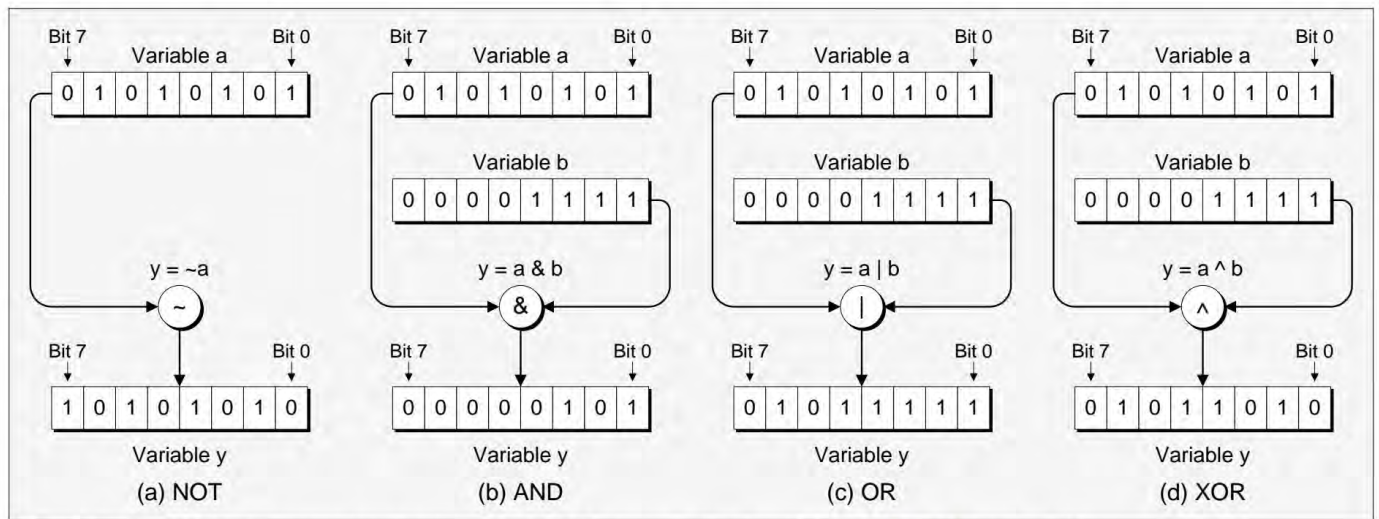

Fig.5: four different bitwise operations performed on 8-bit integer values: not (~), and (&), or (|) and xor (^).
Once again, let's assume that we start with our **a** variable containing binary 01010101 and our **b** variable containing binary 00001111. There are four operators known as the 'bitwise operators': ~ (NOT), & (AND), | (OR), and ^ (XOR). Examples of these operations performed on our 8-bit variables are shown in Figs.5(a), (b), (c), & (d), respectively.
In the case of the & (AND) operation shown in Fig.5(b), for example, bit 0 of **a** is ANDed with bit 0 of **b**, and the result is stored in bit 0 of **y**; bit 1 of **a** is ANDed with bit 1 of **b**, and the result is stored in bit 1 of **y**, and so forth.